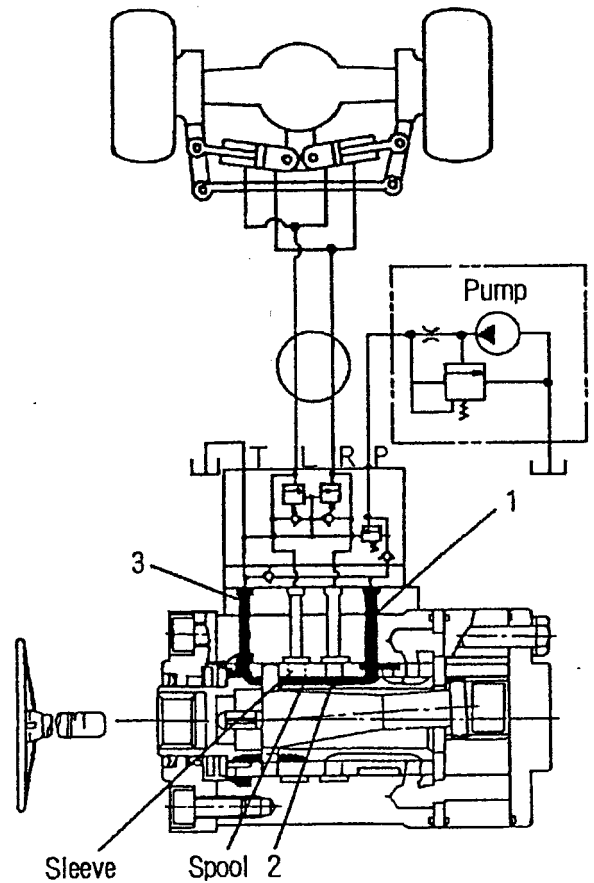

Fig. 5
(1) At neutral position (See Figure 5.)